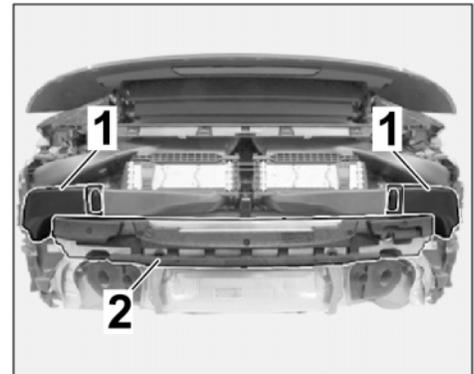

Figure 4
1.5 Remove bumper rear. ⇒ *Workshop Manual '635019 Removing and installing bumper rear', ⇒ Figure 4*